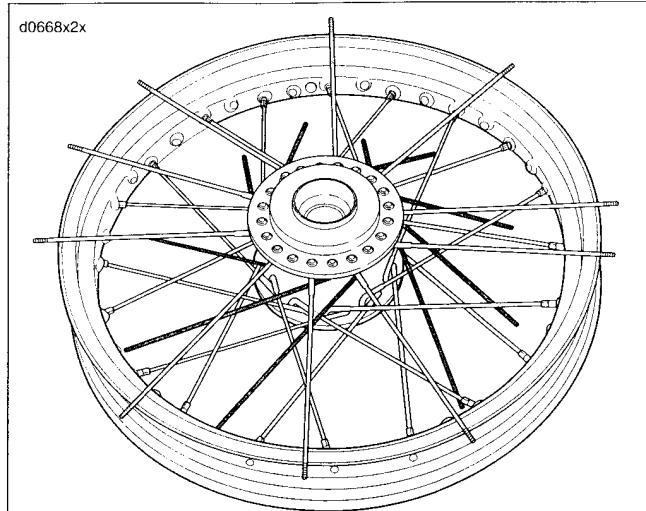

Figure 2-37. Setting Top Flange Inner Spokes
15. See Figure 2-37. Point all the top flange inner spokes (long head) clockwise one at a time leaving the outer spokes (short head) resting on the rim.